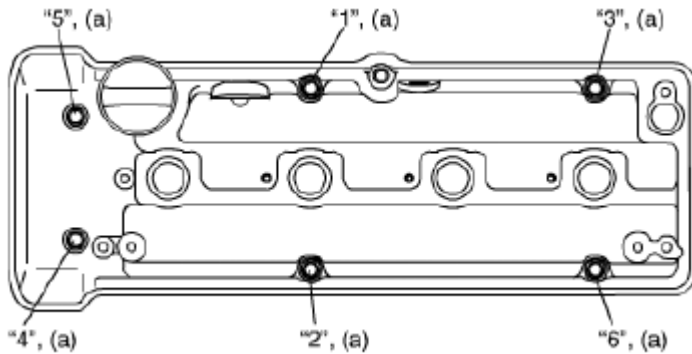

Fig. 35: Identifying Tightening Sequence Of Cylinder Head Cover Nuts
8. Tighten cylinder head cover nuts in such order as indicated in **Fig. 35** a little at a time till they are tightened to specified torque.